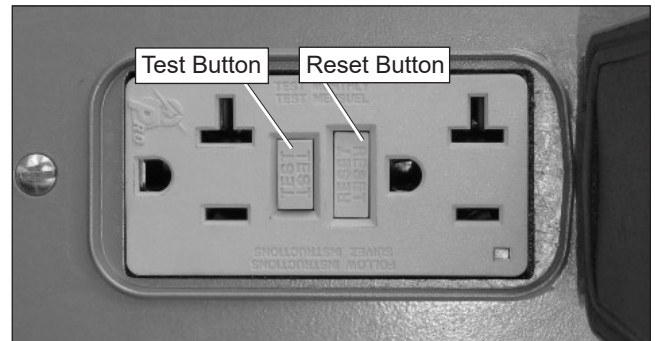

Figure 7.16 – Electrical Power Outlet
1. Push the test button (refer to Figure 7.16).